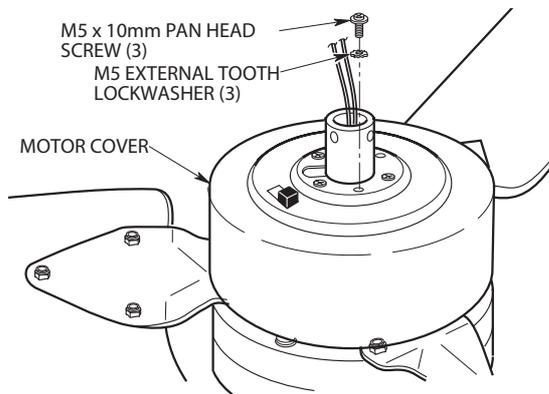

Figure 2
3. Route the two motor leads through the center hole in the motor cover. Place the motor cover over the motor by aligning the reversing switch hole in the cover over the reversing switch as shown in Figure 2. Secure by installing three M5 x 10mm pan head screws and three M5 external tooth lockwashers (supplied) (Figure 2).